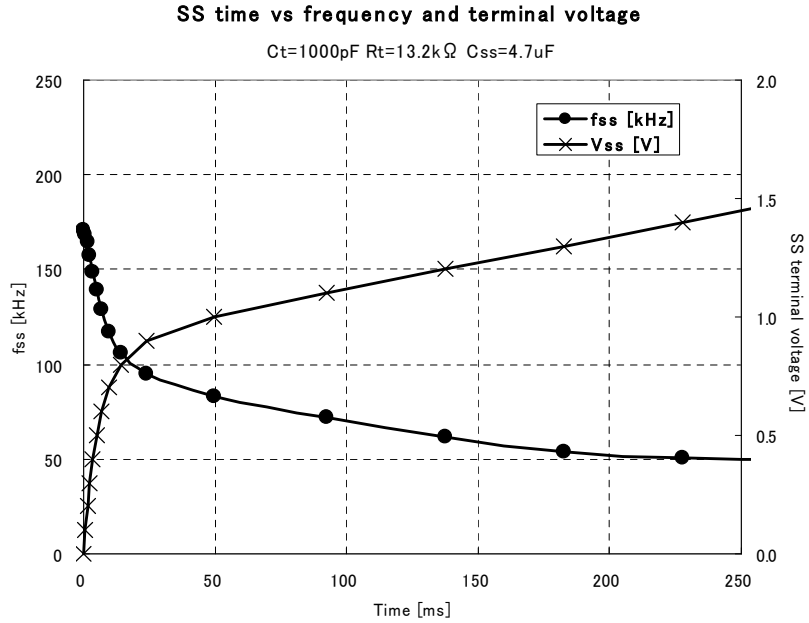

Fig.13. fss characteristics
Tentative value of soft start timing capacitor **Css**(init) is obtained from approximate formula(5). **tss** is the time period of which the frequency stabilizes at fmin after VCss reaches around 0.8V. Correct value of tss, soft start time period, is obtained from formula(6) using actual value of Css. Characteristics of **Css** voltage vs operating frequency at **Css = 4.7uF (tss = 200ms)** is shown in Fig.13.